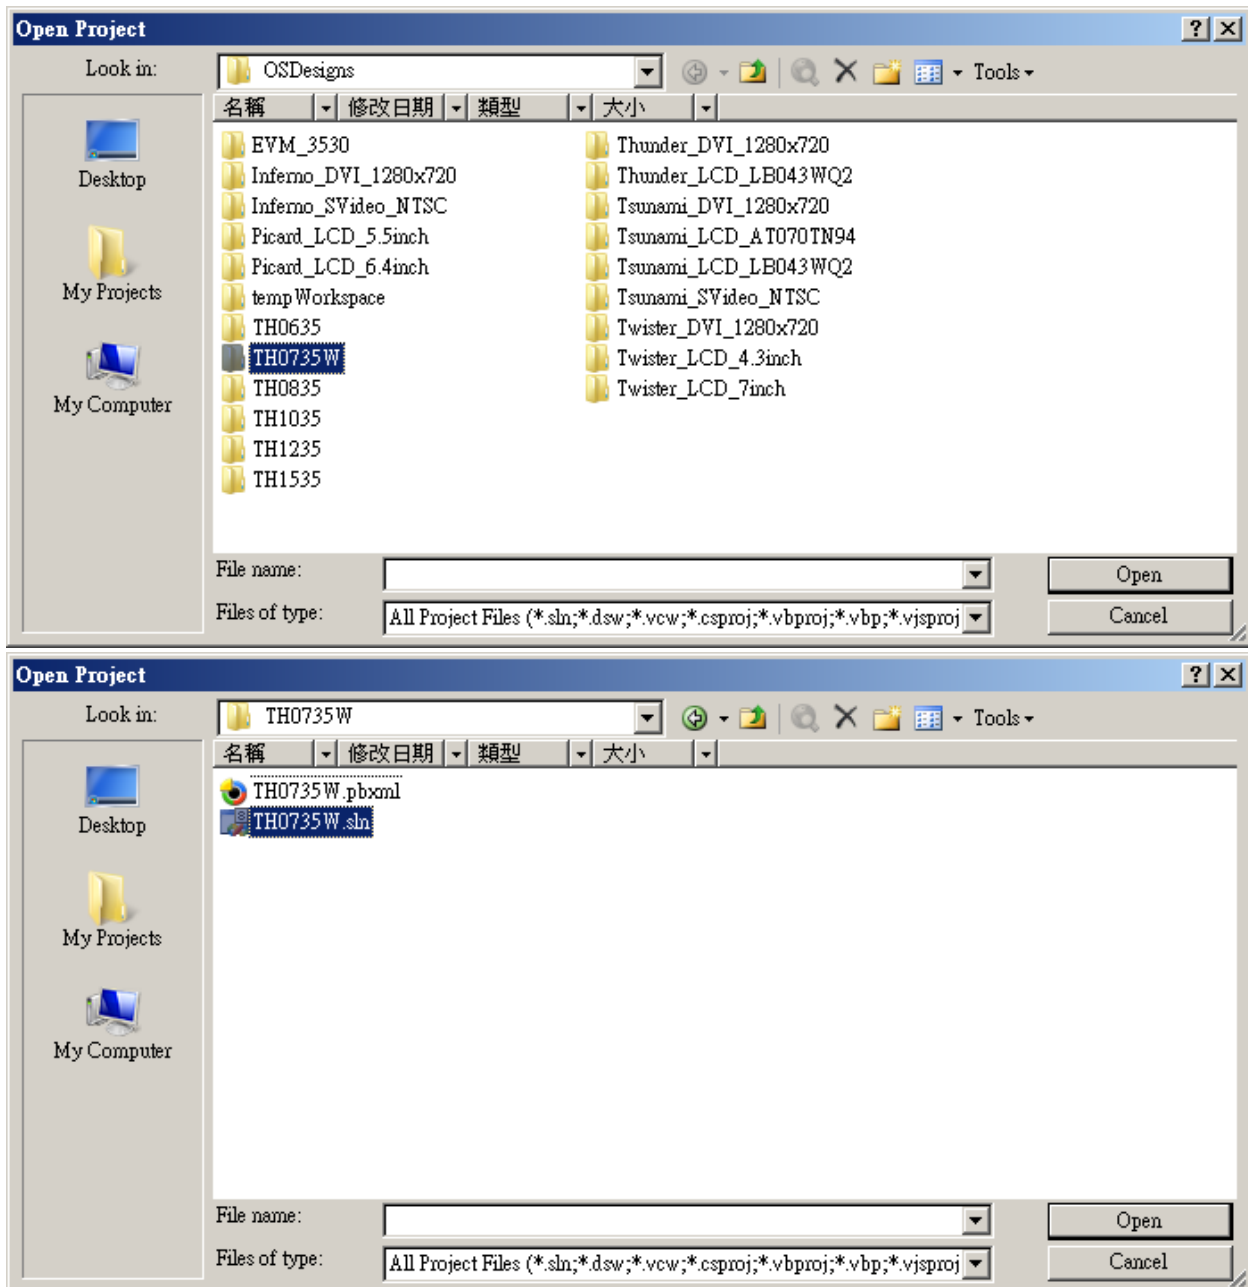

Figure 7
- Go into the folder and open the SLN-file of your HMI (As example in this manual we use “TH0735W” ) (See figure 7)